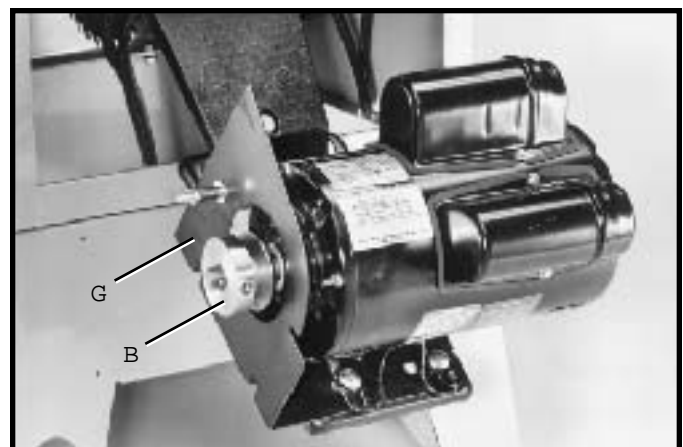

Fig. 19
5. Position belt and pulley guard bracket (G) Fig. 19, so the motor pulley (B) is centered and through the hole in the belt and pulley guard bracket, as shown. Tighten the four hex nuts that fasten the motor to the motor mounting plate.
6. Using a straight edge, align the motor pulley with the arbor pulley. If necessary, adjust the motor pulley (B) Fig. 19, in or out on the motor shaft.